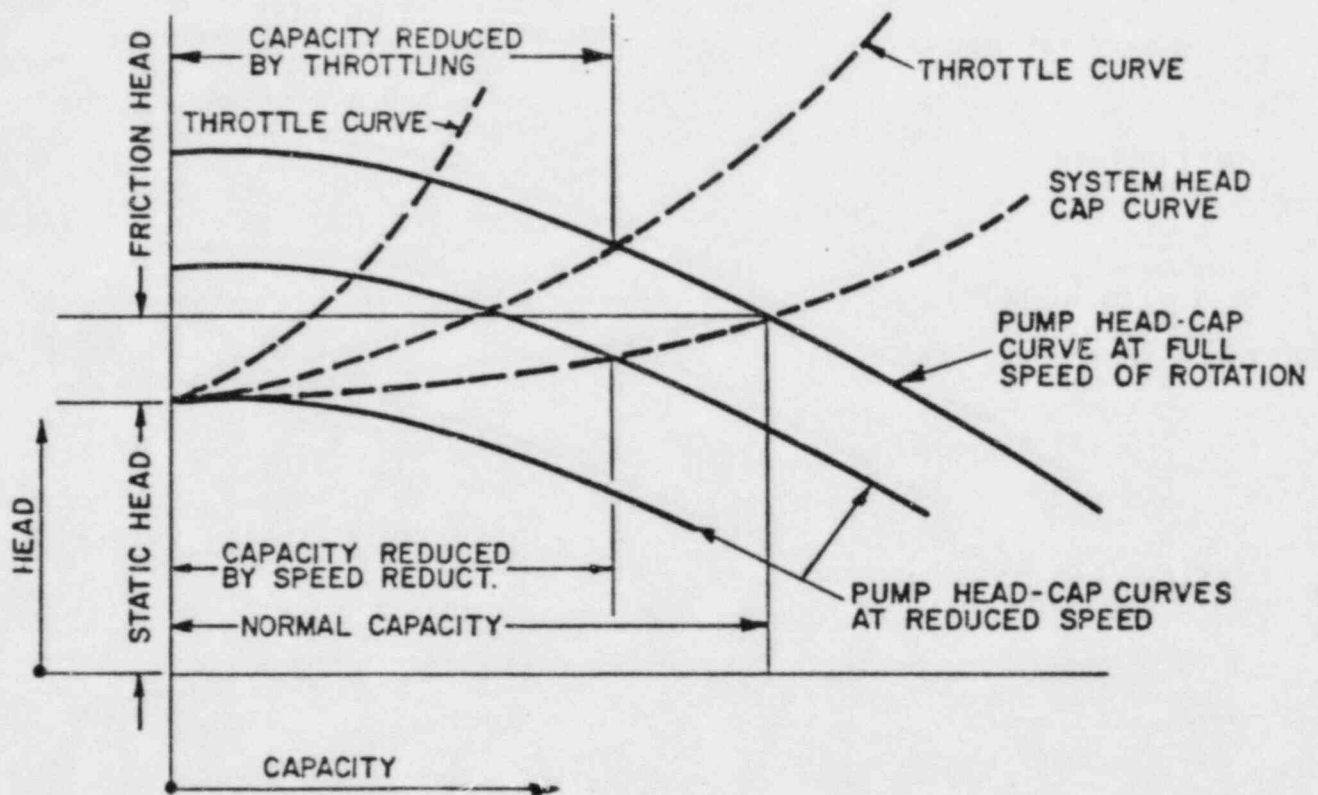

FIGURE 1.2 PUMP OPERATION IN A SYSTEM
b. Figure 1.2 illustrates two methods of reducing a system's flow capacity; i.e., by throttling and by pump speed reduction. State which method is preferred and give one reason WHY. (1.0)
1.3 a. Since MCPR is not a directly measurable parameter, what are three (3) measurable core parameters needed by the process computer to calculate MCPR? (1.0)